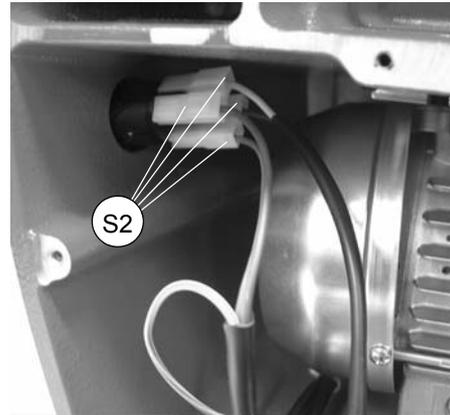
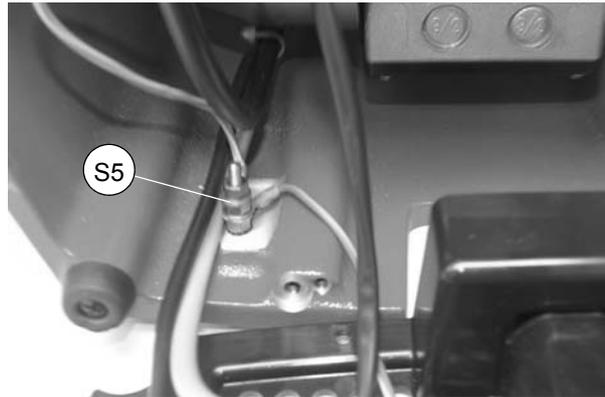

Fig. 29
Fig. 33
- 8) Connect the 4 connectors (S2) (fig. 29) to the motor on switch and fit the earth wire to its screw with the nut (S5) (fig. 33).